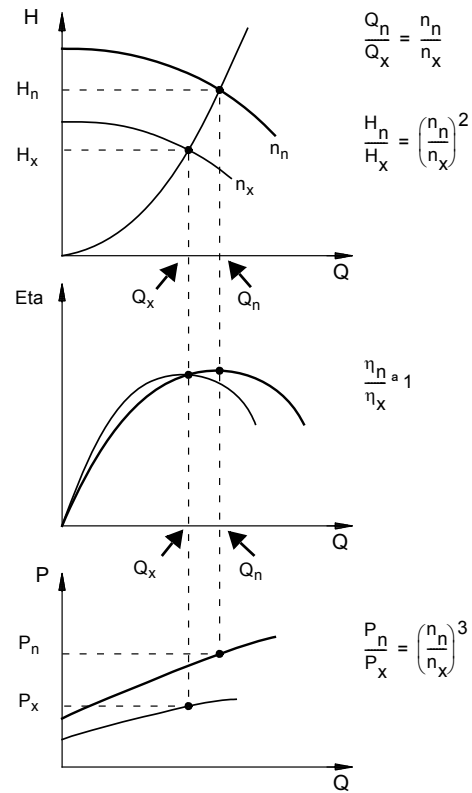

Fig. 51 Affinity equations
In situations where it is not possible to select a duty point close to the 100 % curve the affinity equations to the right can be used. The head (H), the flow rate (Q) and the input power (P) are all the appropriate variables for determining the motor speed (n). See fig. 51.